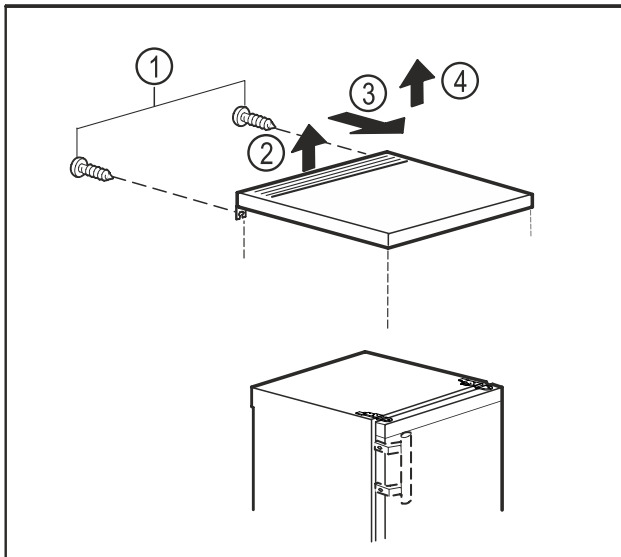

Fig. 6
- ▶ Remove the screws on the rear side. Fig. 6 (1)
- ▶ Raise the table top at the back. Fig. 6 (2)
- ▶ Push the table top forwards. Fig. 6 (3)
- ▶ Lift the table top upwards. Fig. 6 (4)